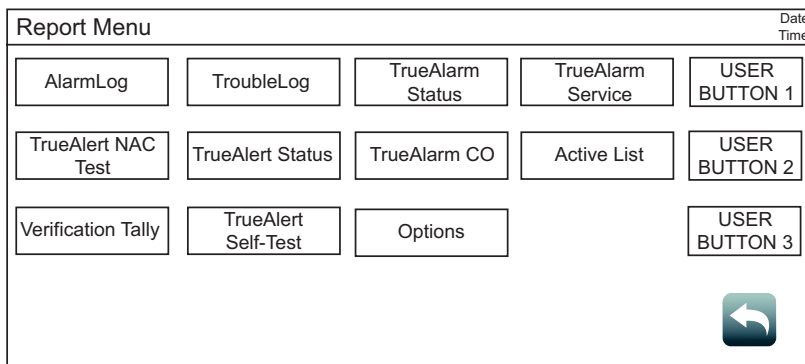

Figure 13. Report Menu Screen
1. Press the **Report Menu** button from the **Main Menu** screen to open the **Report Menu** screen (Figure 13).